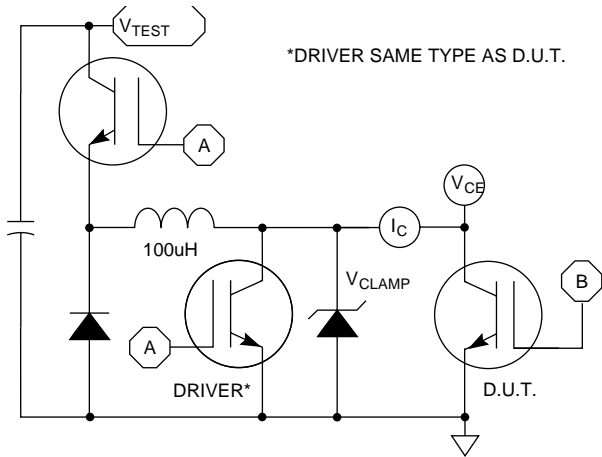

Figure 21, Switching Loss Test Circuit
- ① Repetitive Rating: Pulse width limited by maximum junction temperature.
- ② For Combi devices, I_{ces} includes both IGBT and FRED leakages
- ③ See MIL-STD-750 Method 3471.
- ④ E_{on1} is the clamped inductive turn-on energy of the IGBT only, without the effect of a commutating diode reverse recovery current adding to the IGBT turn-on loss. (See Figures 21, 22)
- ⑥ E_{off} is the clamped inductive turn-off energy. (See Figures 21, 22).